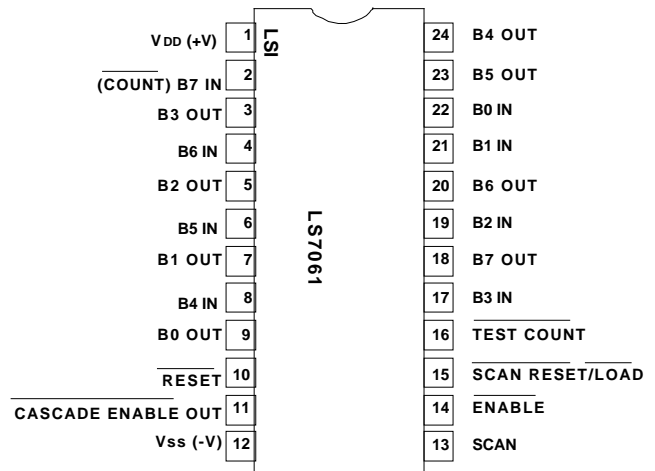

FIGURE 1
- LS7061, LS7063 (DIP); LS7061-S, LS7063-S (SOIC) - See Figures 1 & 2